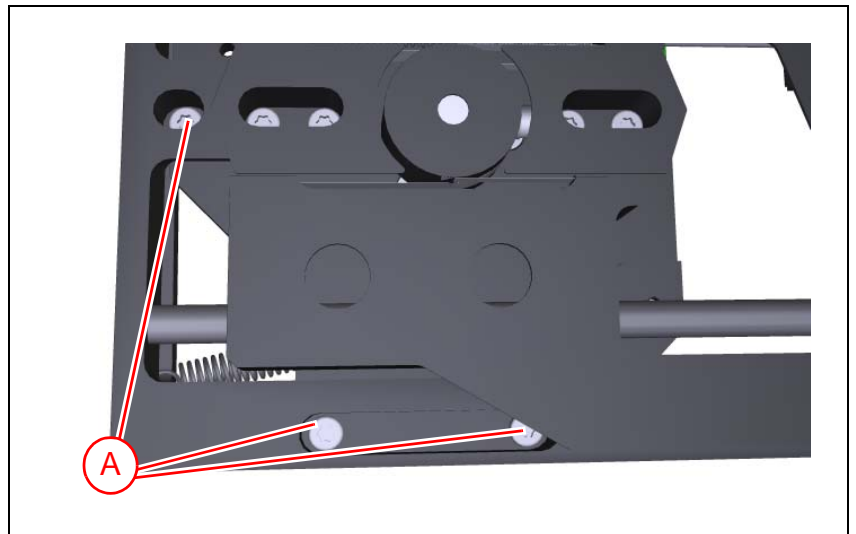

Figure 8-5. Loosen locking screws, left centering unit (Bottom view).
- (MY100 DX) On the left centering unit, use a **torx** key to loosen three locking screws ('A' in Figure 8-5).